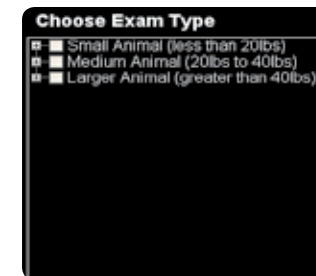

Figure 10-2: At first, only the highest-level groups are shown.
- From the Choose Exam Type area, click the plus-sign boxes to open a group of exam types. (See Figures 10-2 and 10-3.) To close a group of exam types, click the minus-sign box.